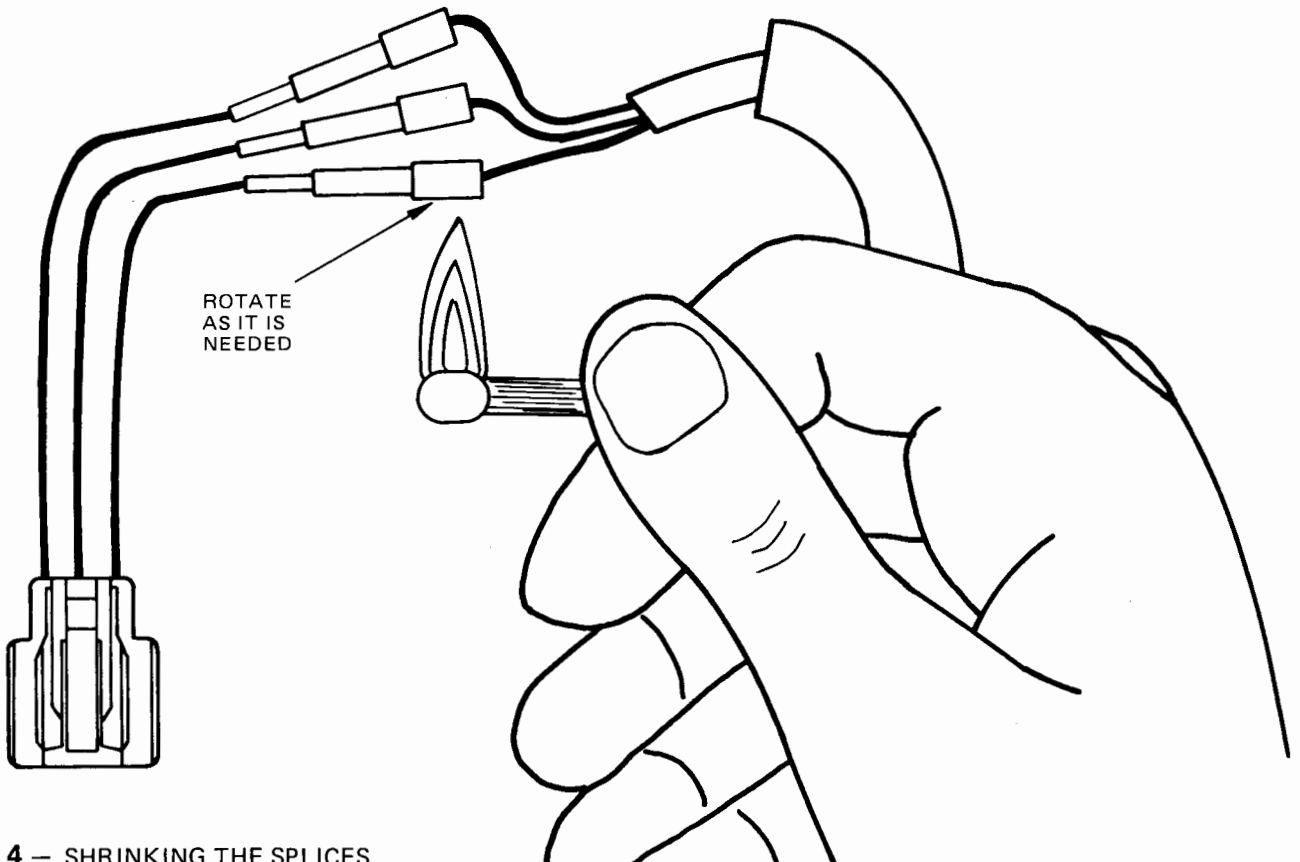

FIG. 4 — SHRINKING THE SPLICES
6. Heat the "Heat Shrinkable Splice" with a match or a lighter. Rotate the splice as you heat it to assure that overheating and damage do not occur. This will also assure that uniform shrinking and nice appearance results (See Fig. 4).